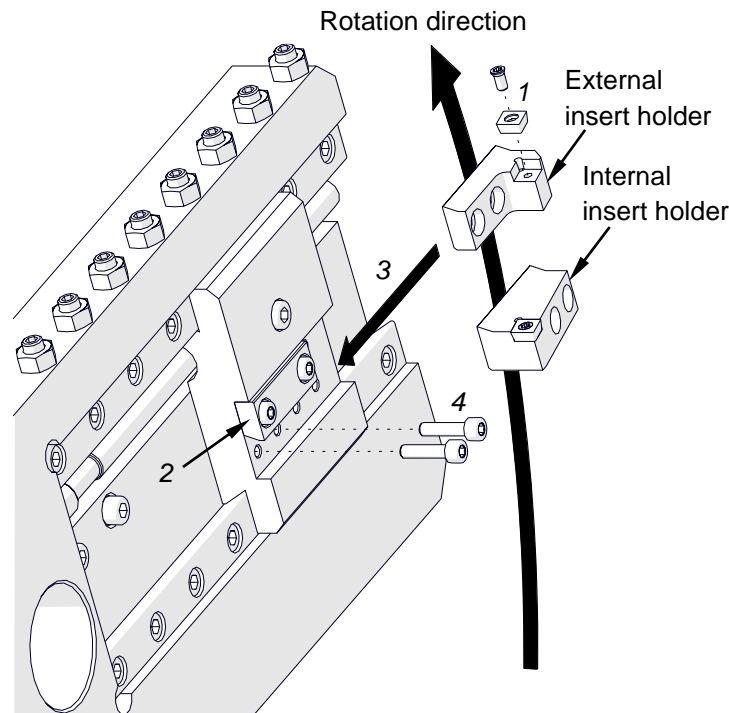

Fig. 9. Installing the tool
Depending on the diameter of the flange to be machined, select either the internal ($\text{Ø}90\text{--}451$, 3.54–17.76”) or external insert holder ($\text{Ø}147\text{--}508$, 5.79–20.00”). Then, use the supplied screwdriver to install a cutting insert onto the insert holder (1, Fig. 9). Next, use the 4 mm hex wrench to tighten the clamp (2), and then slide the insert holder under the clamp (3) and tighten with the screws (4).